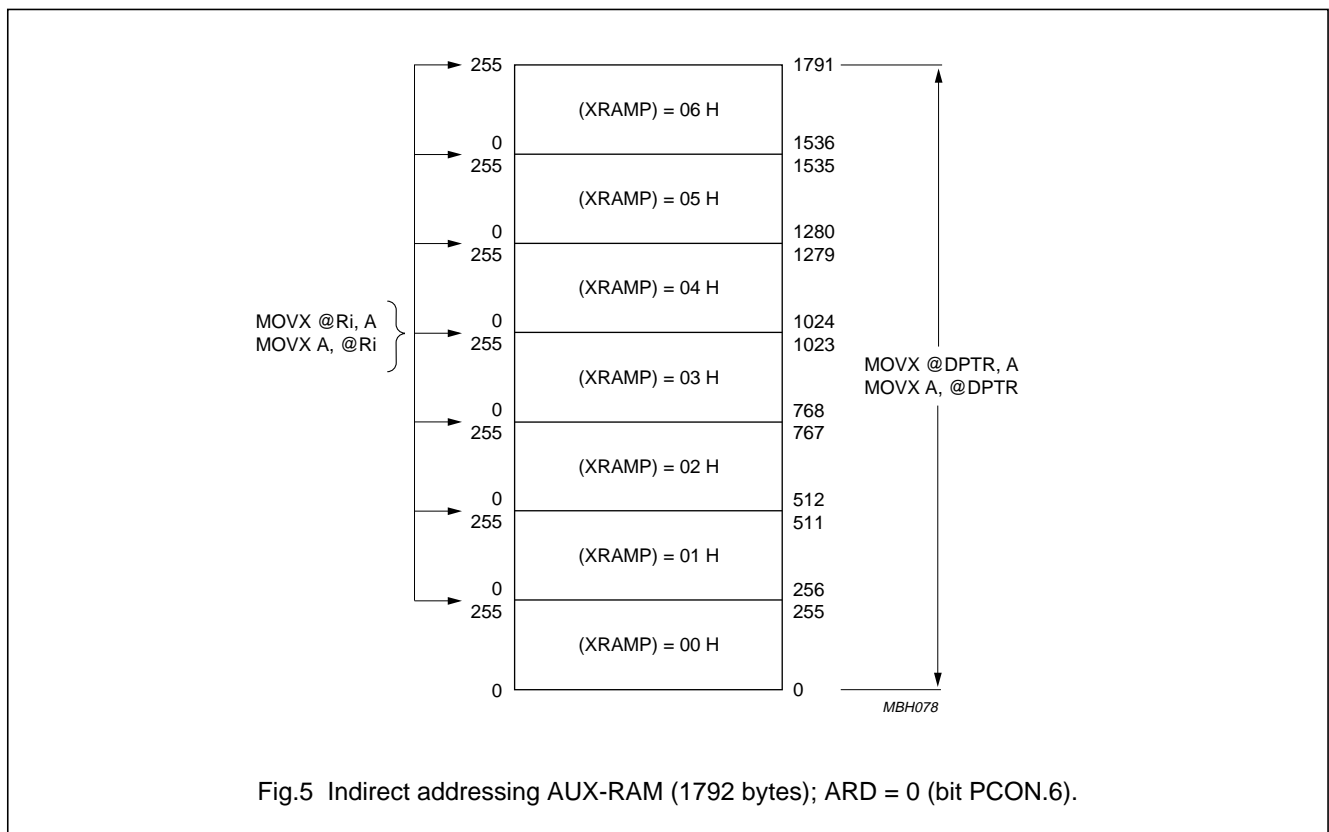

Fig.5 Indirect addressing AUX-RAM (1792 bytes);  $ARD = 0$  (bit PCON.6).
- AUX-RAM 0 to 1791 is indirectly addressable via page register (XRAMP) and MOVX-Ri instructions, unless it is disabled by setting ARD = 1 (see Fig.5). When executing from internal Program Memory, an access to AUX-RAM 0 to 1791 will not affect the ports P0, P2, P3.6 and P3.7.